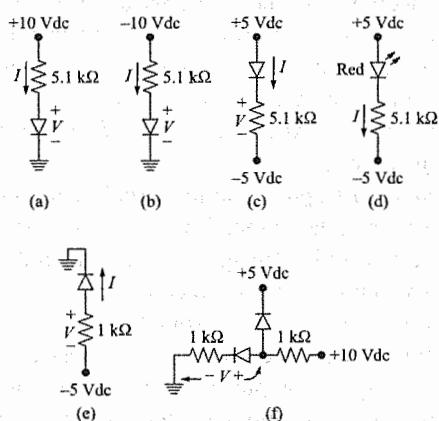

Fig. 14.47
- 14.1 For each assigned circuit in Fig. 14.47, determine the indicated current  $I$  and/or voltage  $V$ .